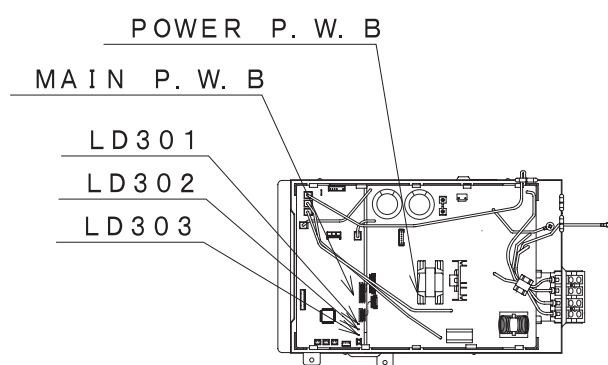

Fig. 4-5
- (1) When U⁺ transistor is ON: U⁺ transistor → U coil → V coil → V transistor → DC current detection resistor → Point (B) (Fig. 4-5)
- (2) When U⁺ transistor is OFF: (by inductance of motor coil) U coil → V coil → V transistor → Return diode → Point (A) (Fig. 4-5)